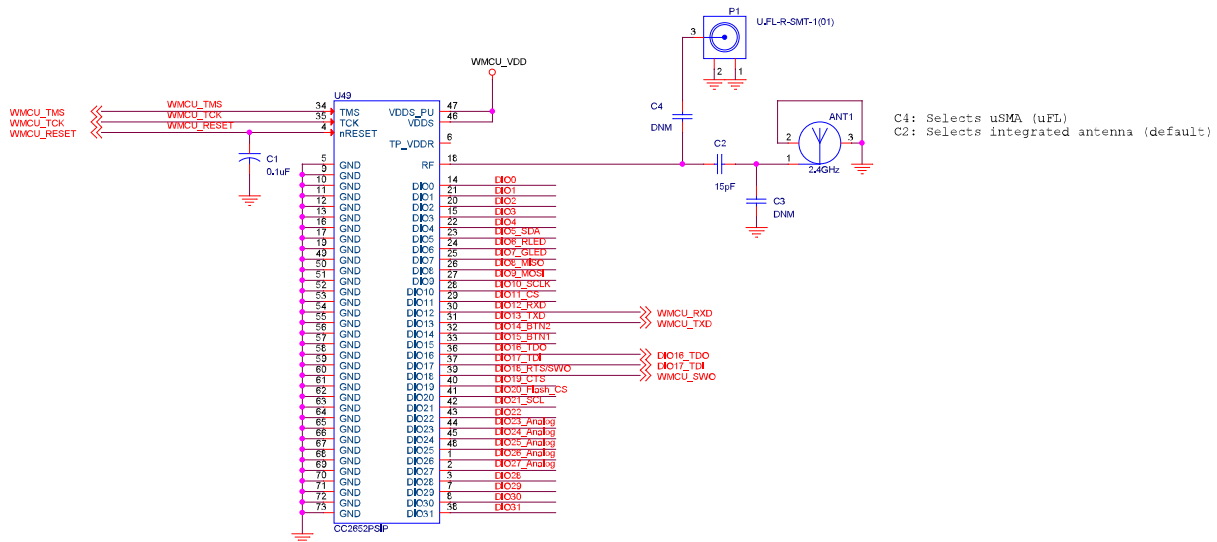

图 10-1. CC2652PSIP Typical Application Schematic
图 10-1 shows the typical application schematic using the CC2652PSIP module. For the full reference schematic, download the LP-CC2652PSIP Design Files.
表 10-1 provides the bill of materials for a typical application using the CC2652PSIP module in 图 10-1.
In order to meet the module power-on-reset requirements, an external 0.1  $\mu$ F capacitor is required on the nRESET pin during power ON. In addition, VDD5 (Pin 46) and VDD5\_PU (Pin 47) should be connected together. If the reset signal is not based upon a power-on-reset and is derived from an external MCU, then the external capacitor will not be needed and VDD5\_PU (Pin 47) should be No Connect (NC). Please refer to 图 10-1 for the recommended circuit implementation and 表 10-1 for the recommended 0.1  $\mu$ F capacitor.